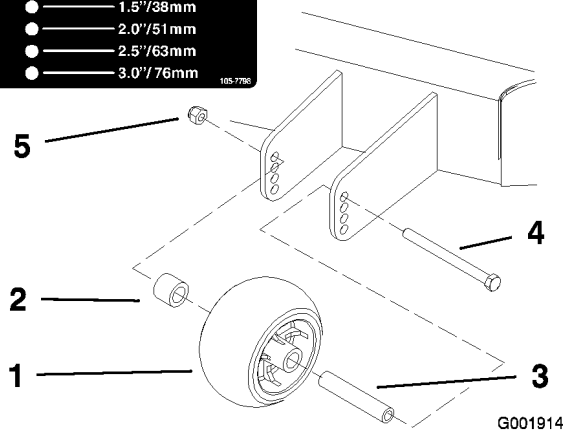
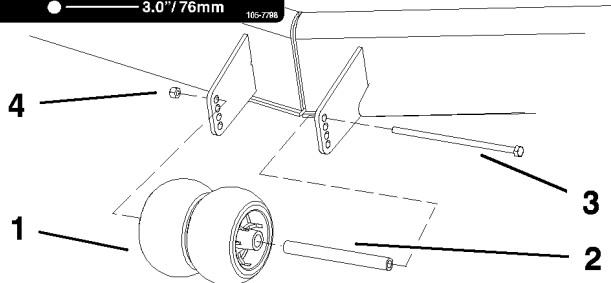

Figure 20
Figure 21
3. After adjusting the height-of-cut, adjust the rollers by removing the flange nut, bushing, spacer, and bolt (Figure 20 , Figure 21 and Figure 49).
- Note:** The two middle rollers will not have a spacer (Figure 21).
5. Install the flange nut bushing, spacer, and bolt. Torque to 40-45 ft-lb (54-61 N•m) (Figure 20 , Figure 21 and Figure 49).